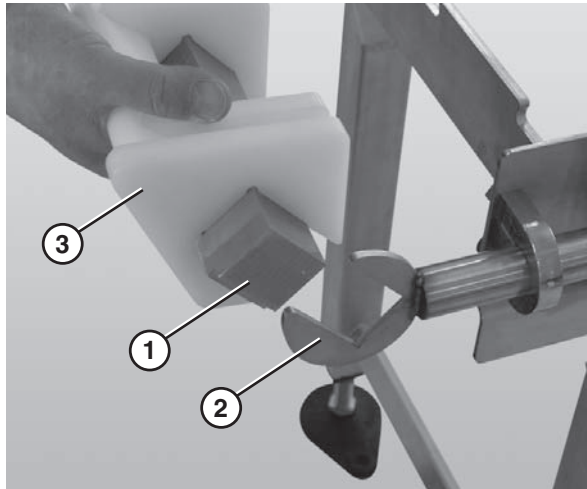

Figure 67
1. Slide the nose bar drive or transfer post (**Figure 67, item 1**) out of the nose bar drive weldment or idler hands (**Figure 67, item 2**).
2. Remove the nose bar tracking pucks (**Figure 67, item 3**), if applicable.